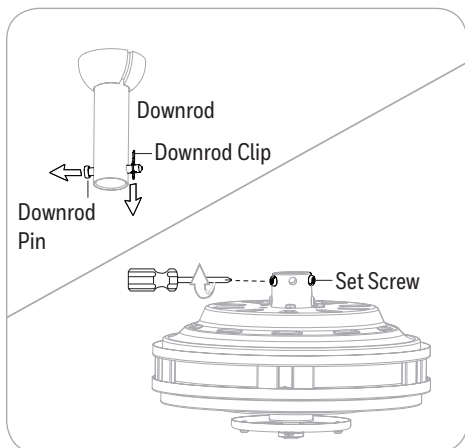

Figure 3.1
1. Remove the downrod pin and downrod clip from the downrod. Then, loosen but don't remove the two set screws in the yoke (Figure 3.1).